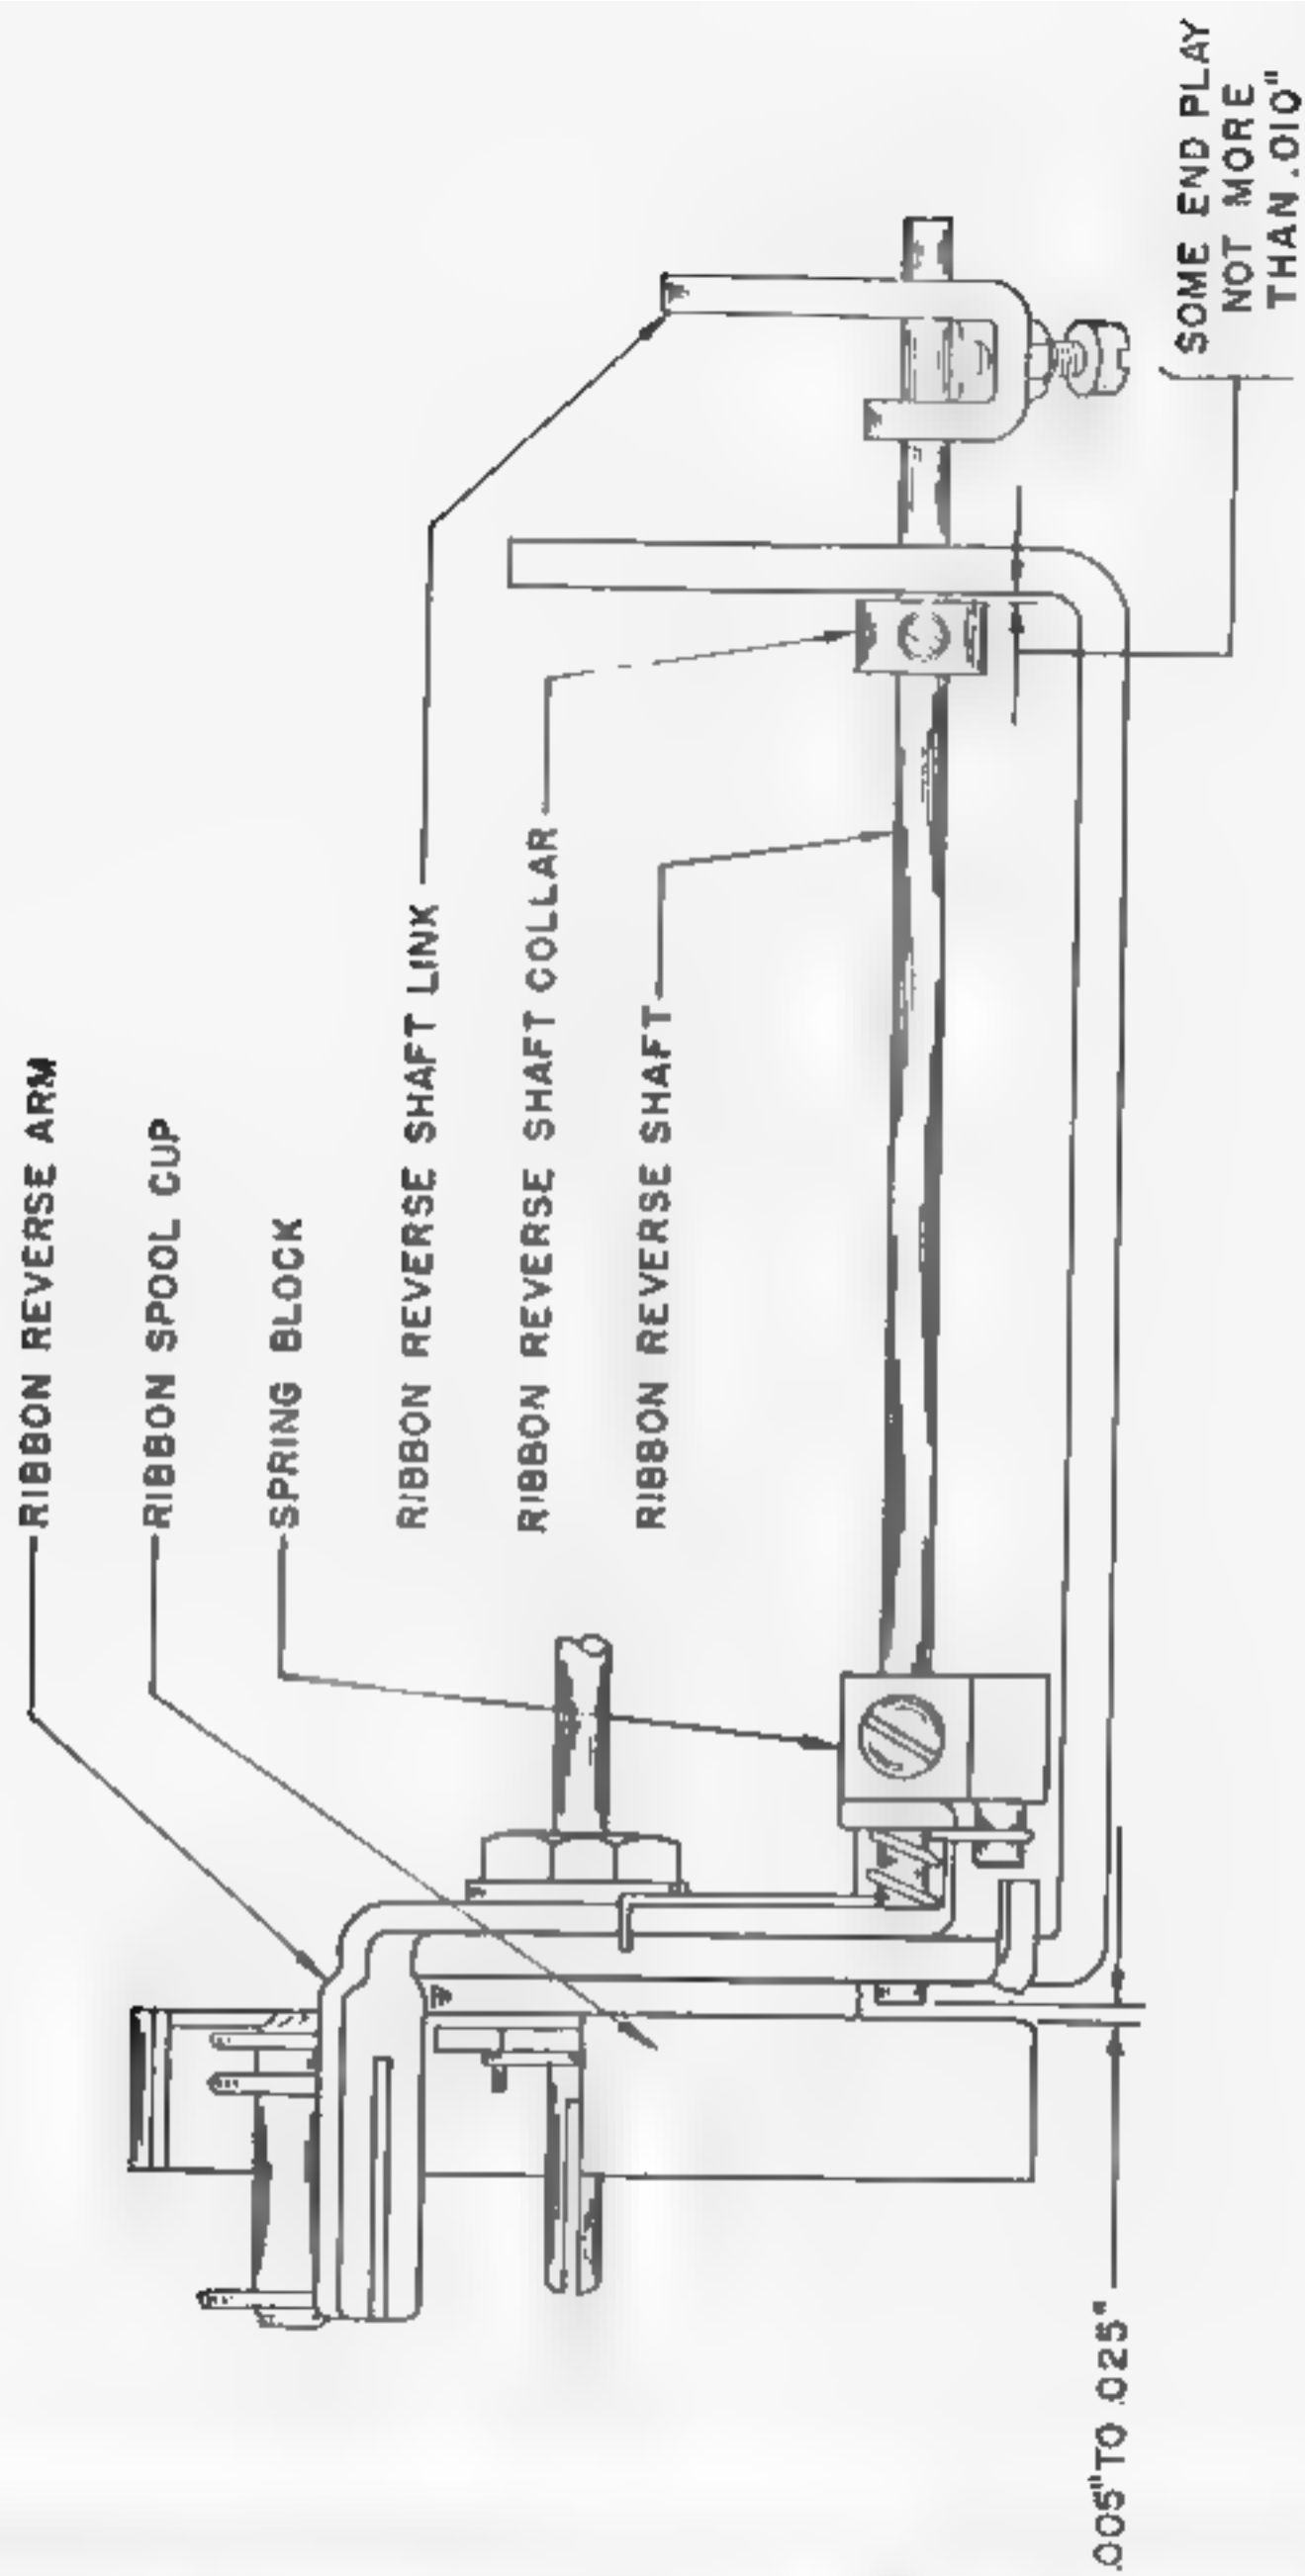

FIGURE 1
a. LEFT RIBBON REVERSE ARM SHAFT ADJUSTMENT (Figure 1)
(1) On typing units and typing reperforators there should be from .005" to .025" clearance between the rear of the left spool cup and the front end of the ribbon reverse shaft when the ribbon reverse shaft is held forward to make this clearance a minimum.
(2) On reperforator transmitters the left ribbon reverse shaft should be set flush with the front of the ribbon spool bracket.
(3) To adjust, loosen the set screw of the spring block, and if necessary, the set screws of the ribbon reverse shaft collar and link. Position the shaft while holding the ribbon reverse arm against the ribbon spool bracket and the spring block against the reverse arm. Tighten the spring block set screw.
b. RIBBON REVERSE ARMS SHAFTS COLLAR ADJUSTMENT (Figure 1)
165B, Page 2-1 and Figure 1
220B, Page 2-1 and Figure 1